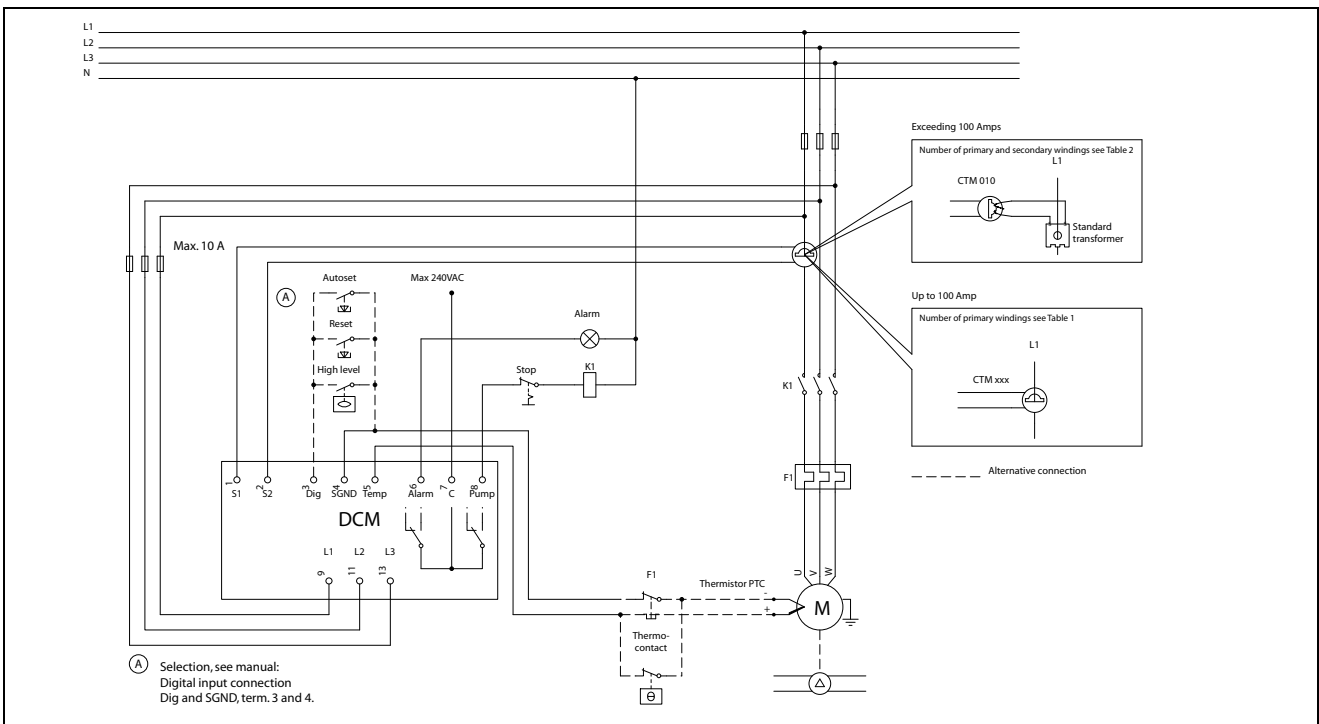

Fig. 2 Connection example
**NOTE: The current transformer (CTMxxx) must be placed in the same phase that is connected to terminal 9, phase L1, see Fig. 2, page 1.**